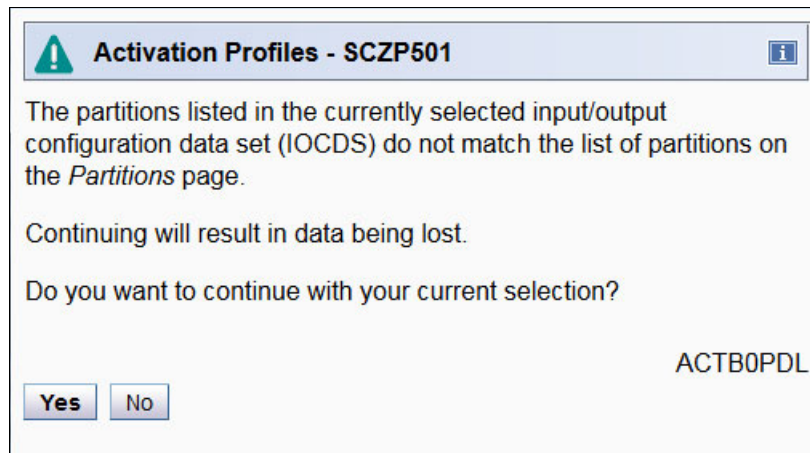

Figure 7-95 HMC - Activation Profiles: ACTB0PDL message
8. Click the IOCDS that you updated in 7.8, “HCD/HMC: Loading the 2964 processor IOCDS” on page 405. The ACTB0PDL message is displayed (Figure 7-95).